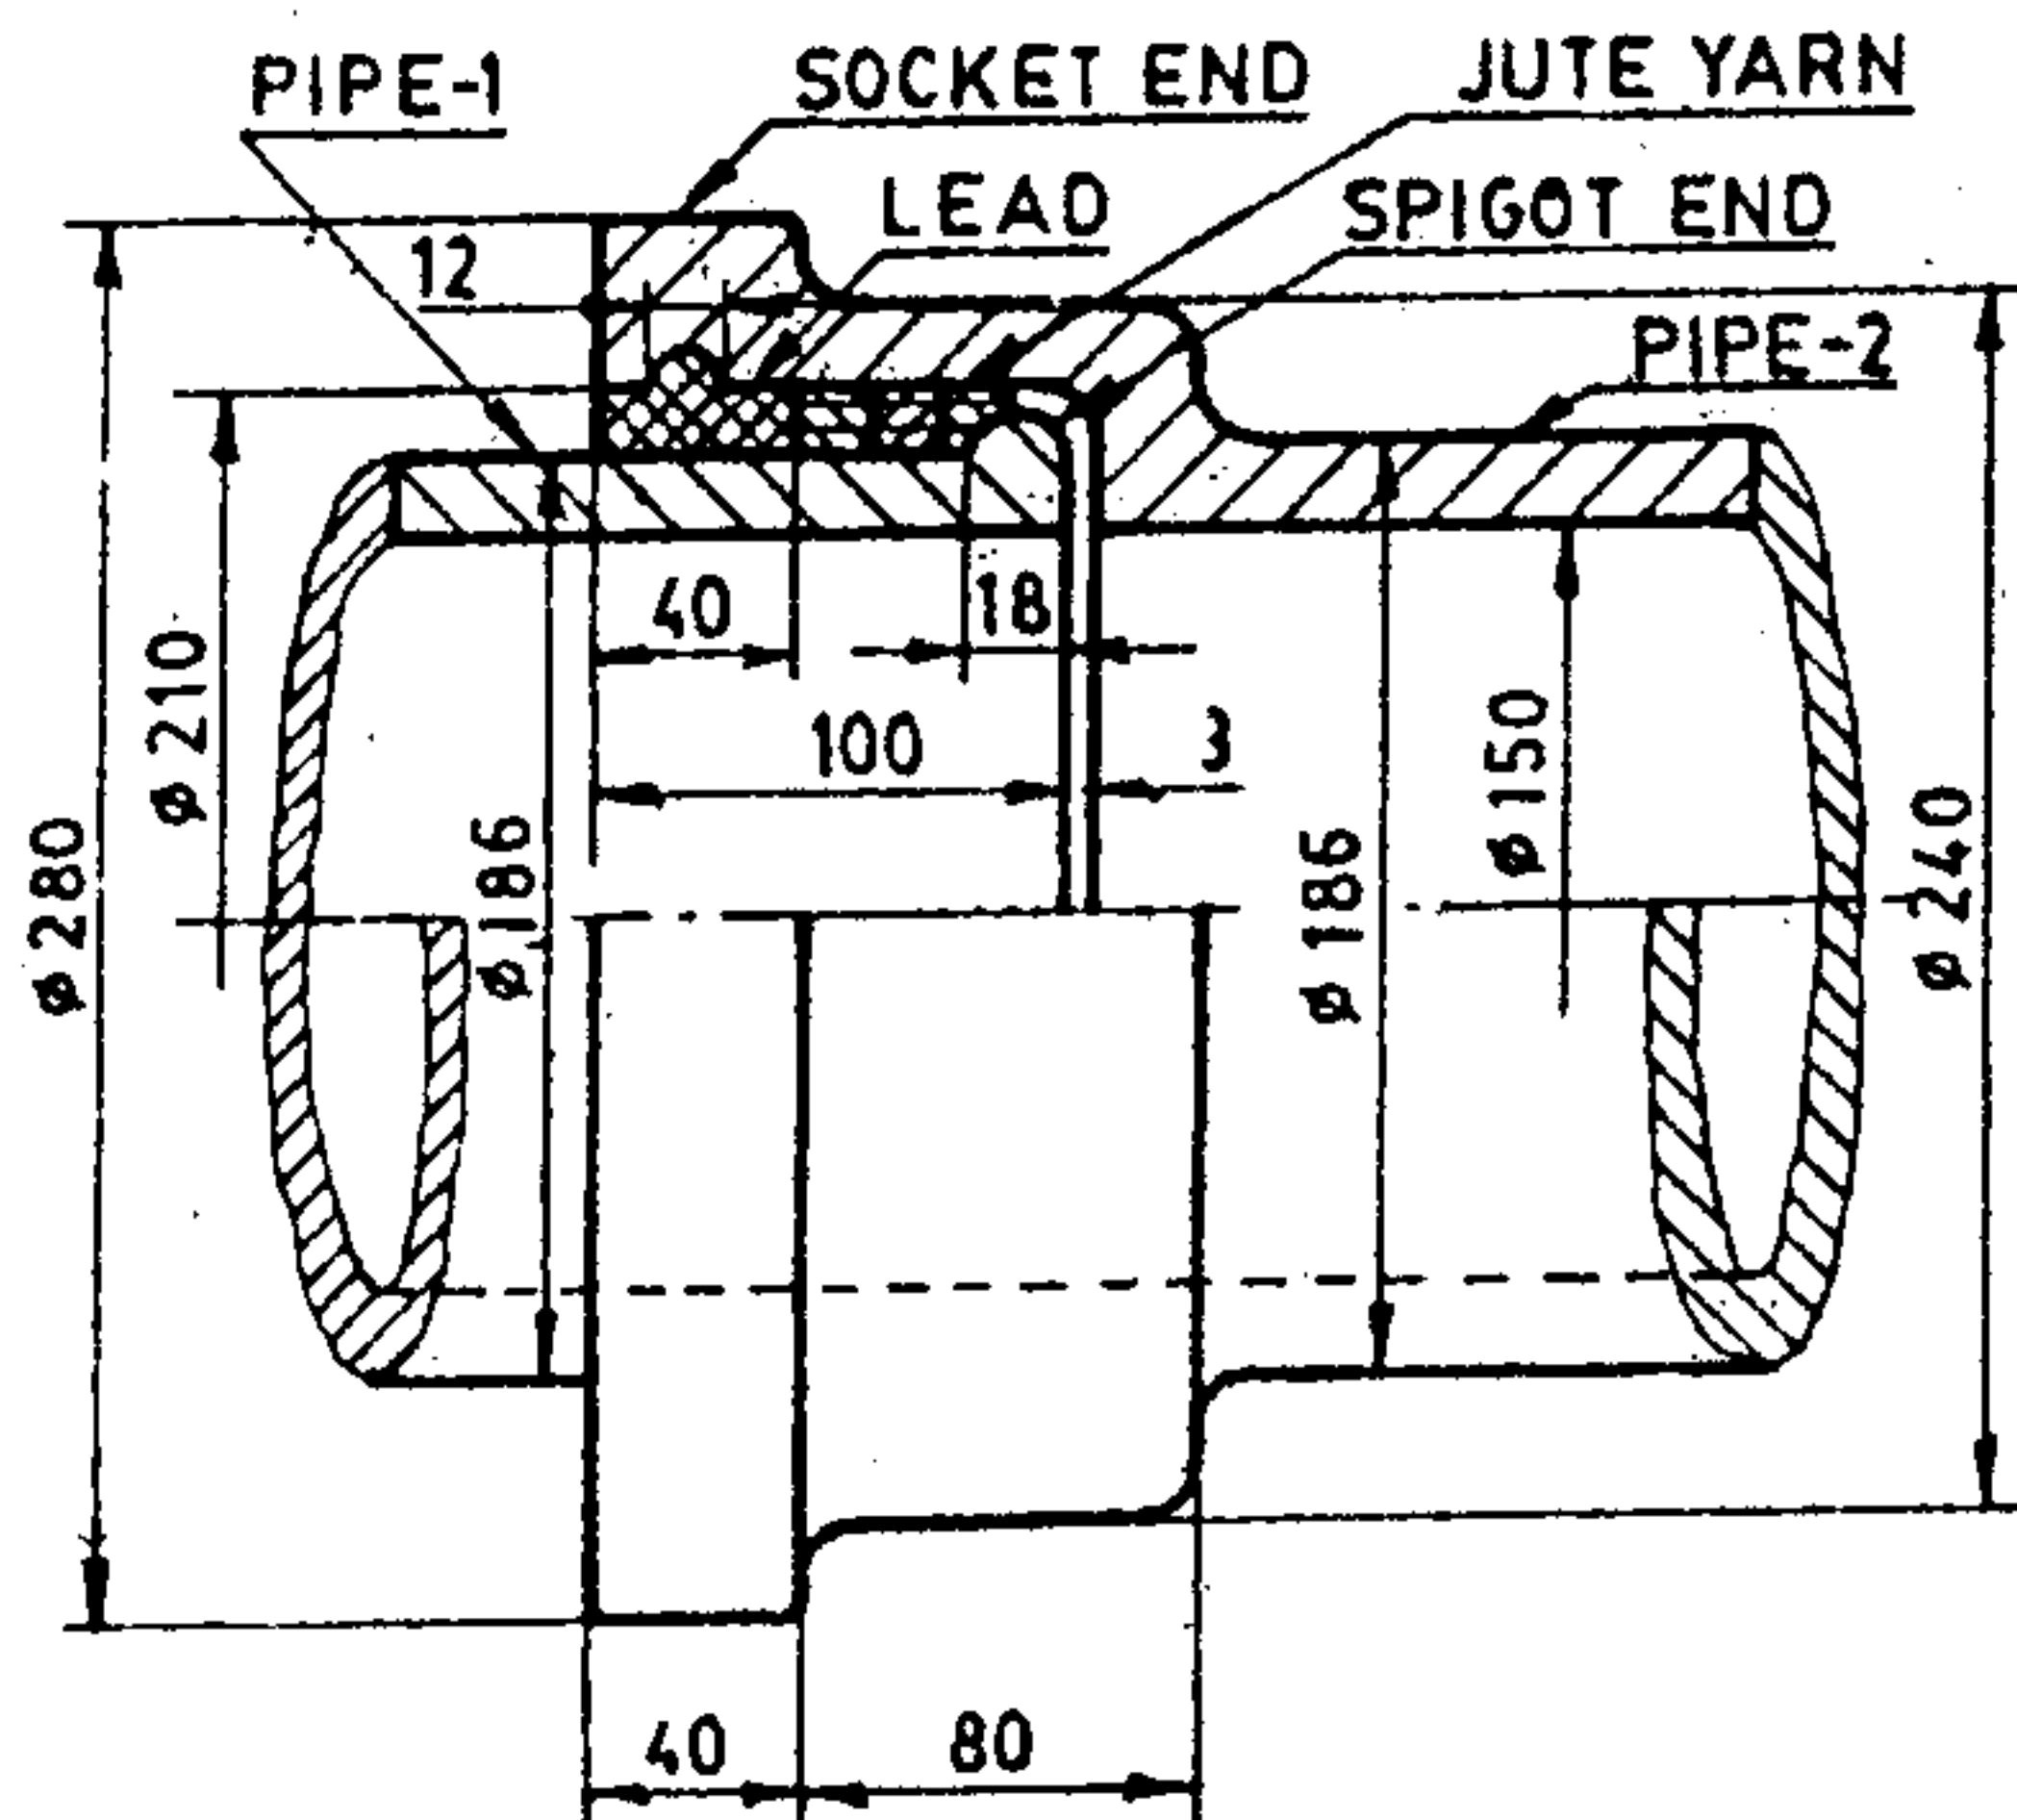

Fig. 1
1. Draw the bottom half sectional elevation and an end view of a socket and spigot joint for connecting two C.I. pipes of ϕ 150 mm. (Refer Fig. 1).